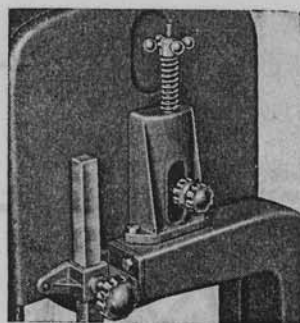

Fig. 2
1. The four-spoked knob on rear of saw controls the saw blade tension—see Fig. 2.
2. The double set of knobs on rear of saw control the tilt of the upper wheel—see Fig. 2. Outside knob tilts wheel to properly track the blade—inside knob locks tilt setting.